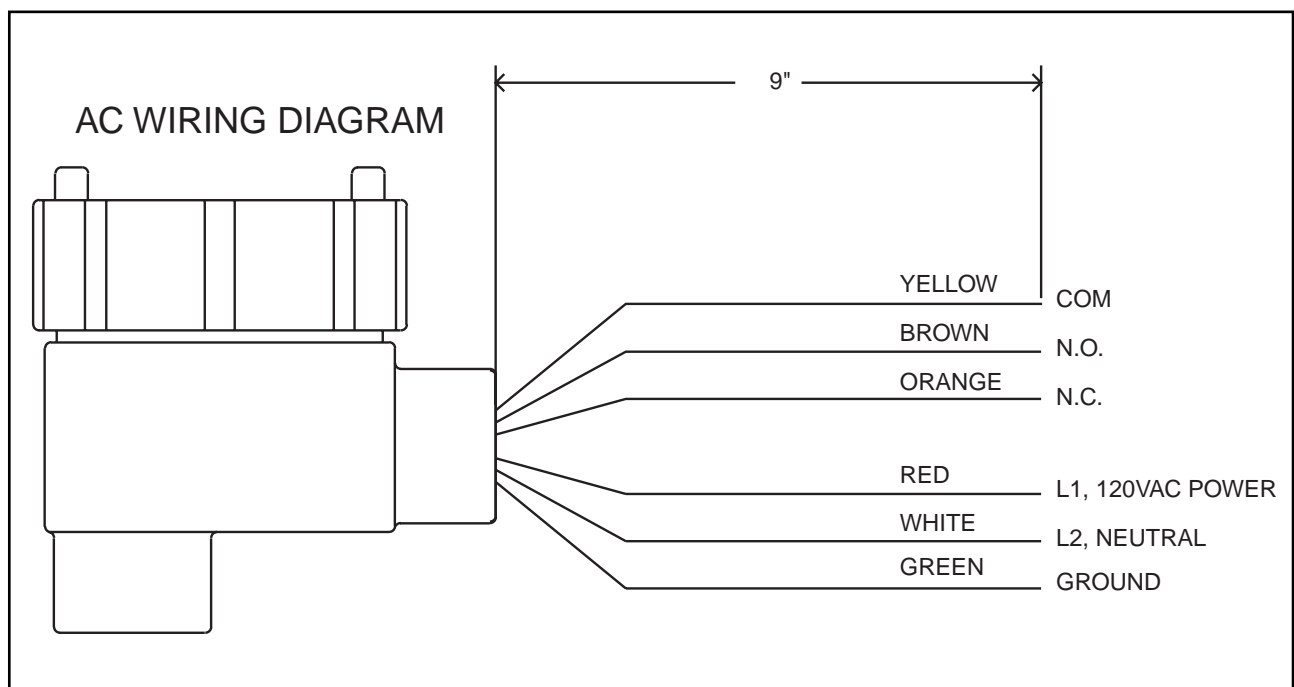
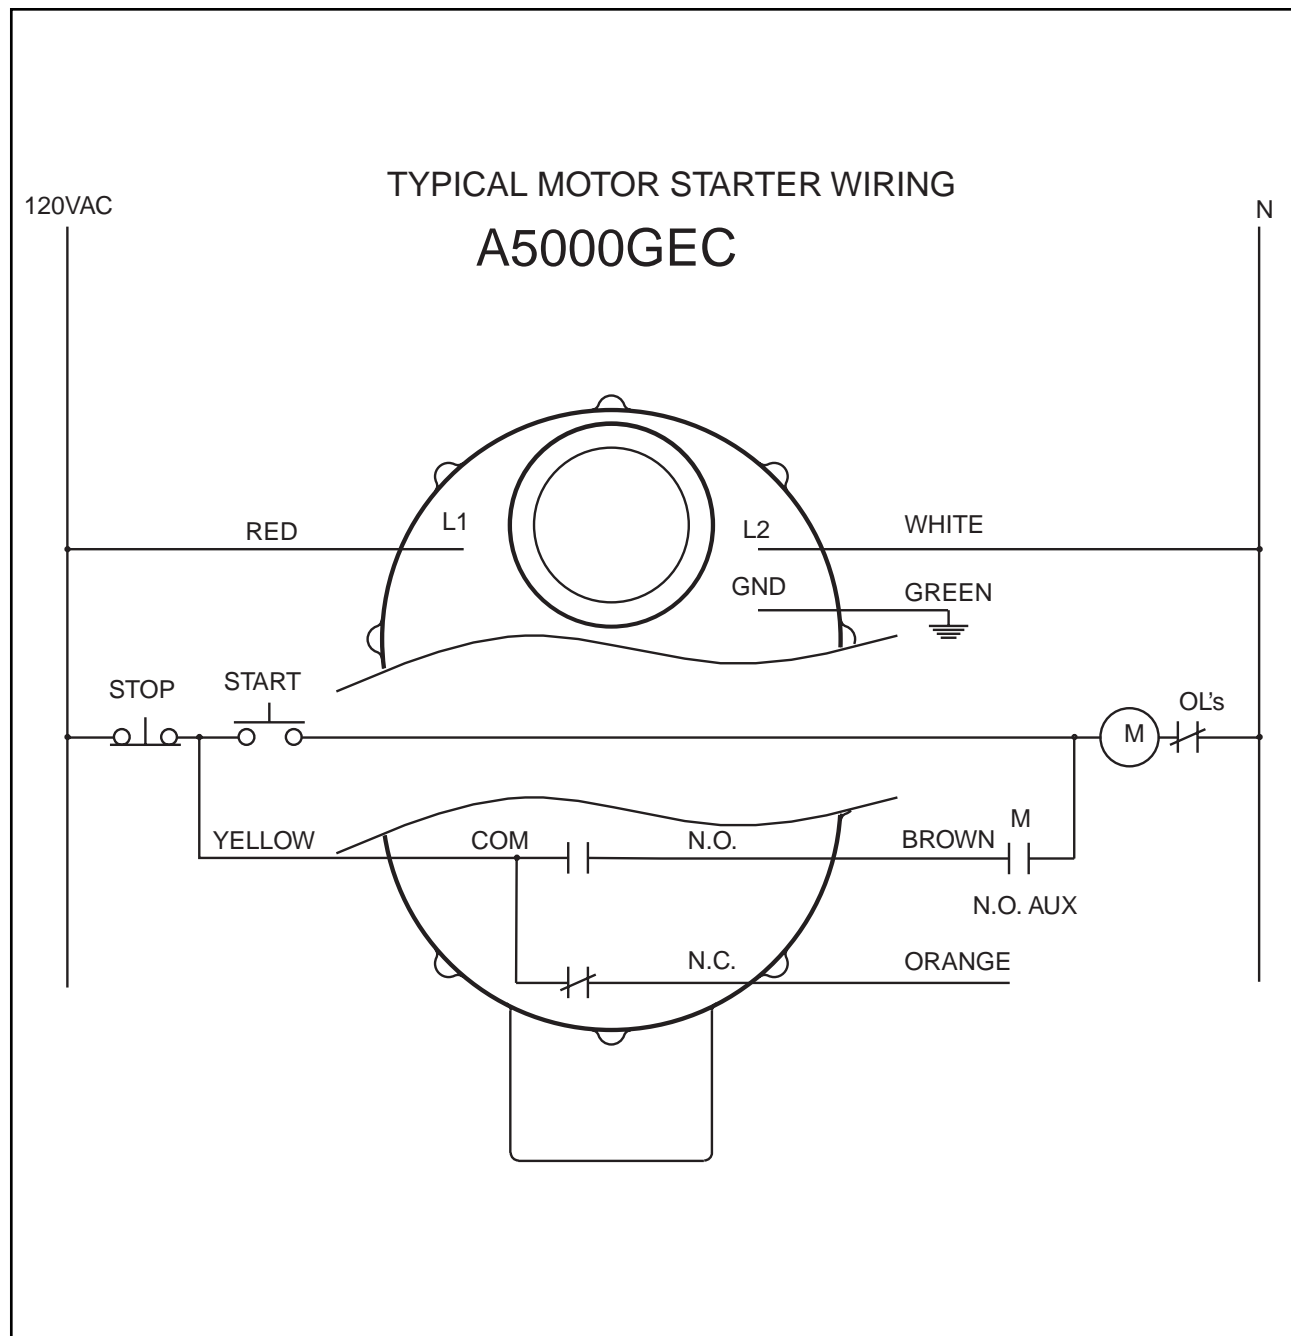

Figure 3
Figure 4
5.1 Power connections and relay connections to the A5000GEC Zero Speed Switch are shown on figure 3, page 4. Also, figure 4 & 5, page 5 & 6 show typical wiring diagrams.
5.2 Connect 120 VAC power to the RED wire and neutral to the WHITE wire. Connect the equipment safety ground to the GREEN wire on the A5000GEC. (see figure 3, page 4).